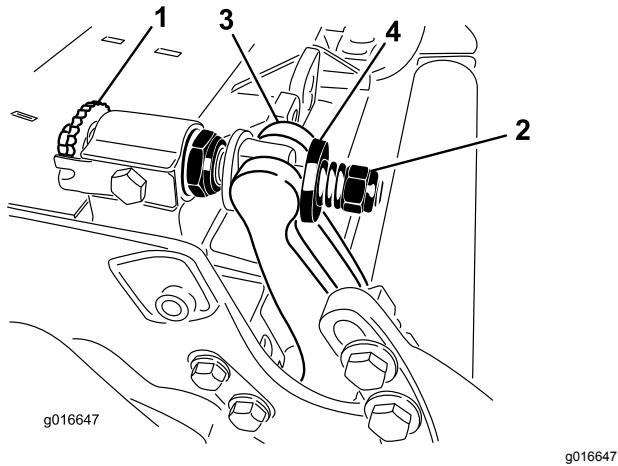

Figure 29
1. Turn the bedbar-adjuster screws counterclockwise to back the bedknife away from the reel (Figure 29).
2. Back out the spring-tension nut until the washer is no longer tensioned against the bedbar (Figure 29).